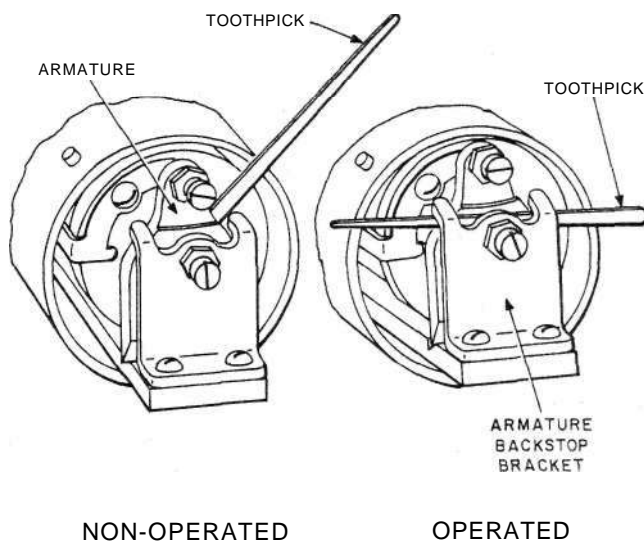

Fig. 17—Blocking 118-Type Relays
3.14 **118-Type Relays:** Fig. 17—Block relays nonoperated by inserting a toothpick between the armature and the core. Block relays operated by inserting a toothpick between the armature backstop bracket and the armature.